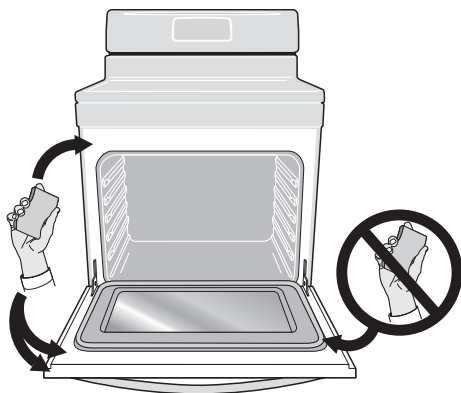

Figure 8: Areas to clean and to avoid
- Do not use oven cleaners or oven protective coatings in or around any part of the oven interior. Clean any soil from the oven frame, the door liner outside the oven door gasket, and the small area at the front center of the oven bottom (See Figure 8). These areas heat sufficiently to burn soil on. Clean using soap and water prior to starting Self Clean.